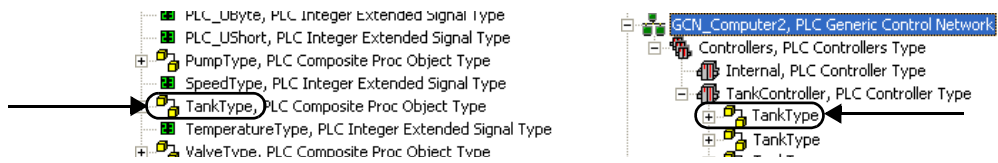

Figure 24. Object Type Structure (Left), and Control Structure (Right)
23. The last part of the process object name shows the type as shown in Figure 24.